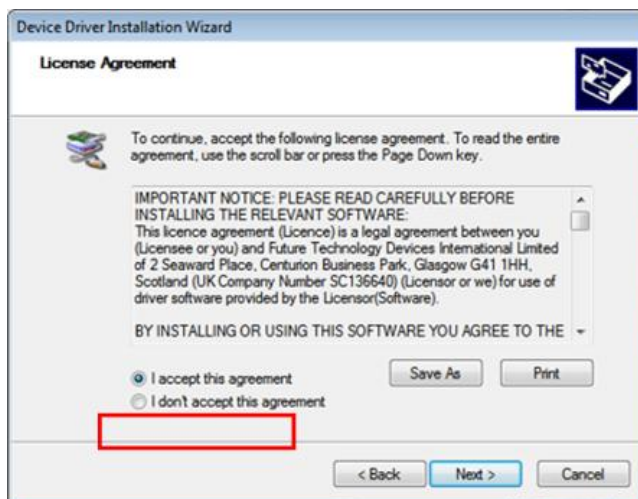

Fig. 3.29
3) Select 'I accept this agreement' and click 'Next' (Fig 3.29).